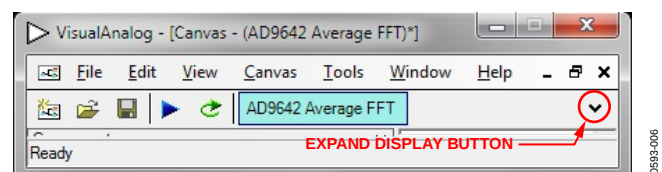
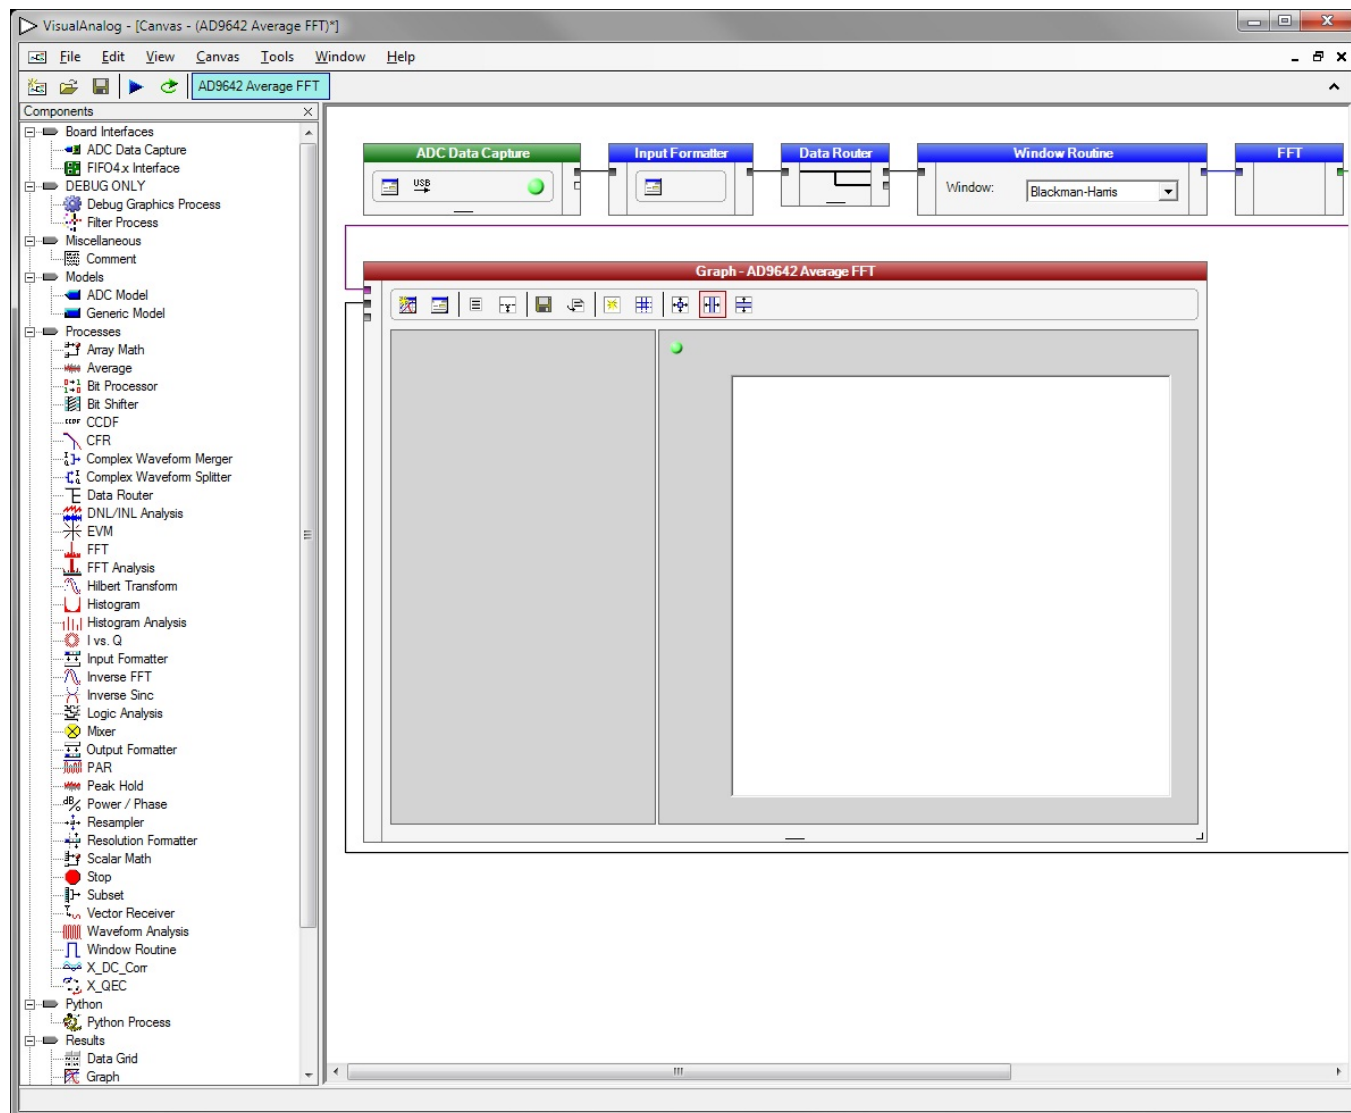

Figure 6. VisualAnalog Window Toolbar, Collapsed Display
Figure 7. VisualAnalog, Main Window
3. To change features to settings other than the default settings, click the **Expand Display** button, located on the bottom right corner of the window (see Figure 6) to see what is shown in Figure 7. Detailed instructions for changing the features and capture settings can be found in the AN-905 Application Note, *VisualAnalog™ Converter Evaluation Tool Version 1.0 User Manual*. After the changes are made to the capture settings, click the **Collapse Display** button.
- In VisualAnalog, click the **Settings** button in the **Input Formatter** block (see Figure 7). Check that **Number Format** in the settings of the **Input Formatter** block is set to the correct encoding (offset binary by default). Repeat for the other channel.